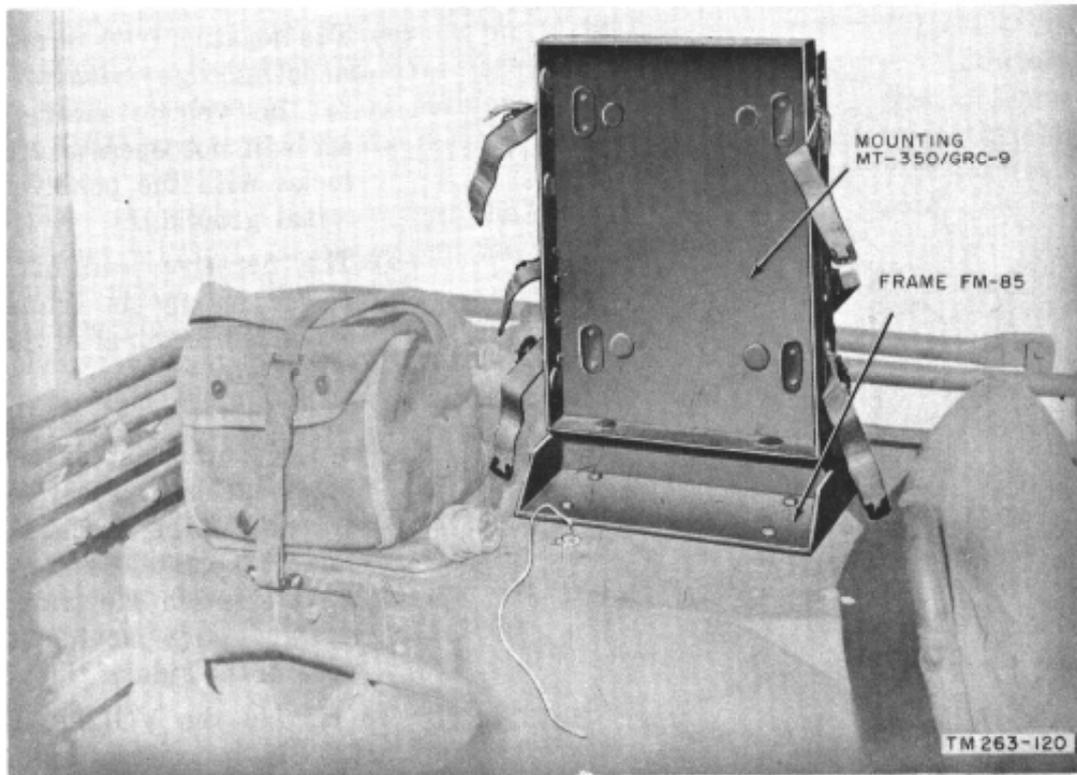

Figure 36. Mounting MT-350/GRC-9 and Frame FM-85, installed in vehicle.
b. Use Mounting MT-350/GRC-9 (fig. 4) to support and shock mount the receiver-transmitter. Mounting MT-350/GRC-9 is fastened directly to a vertical surface in the vehicle, with the hardware provided. If a horizontal surface is selected, install Mounting MT-350/GRC-9 on Frame FM-85, part of vehicle installation kit (fig. 35). Figure 36 shows the mounting and frame installed in a vehicle.
f. Connect a ground lead (as short as possible) from the GND. post on the receiver panel to a nearby grounded metal portion of the vehicle (fig. 36).